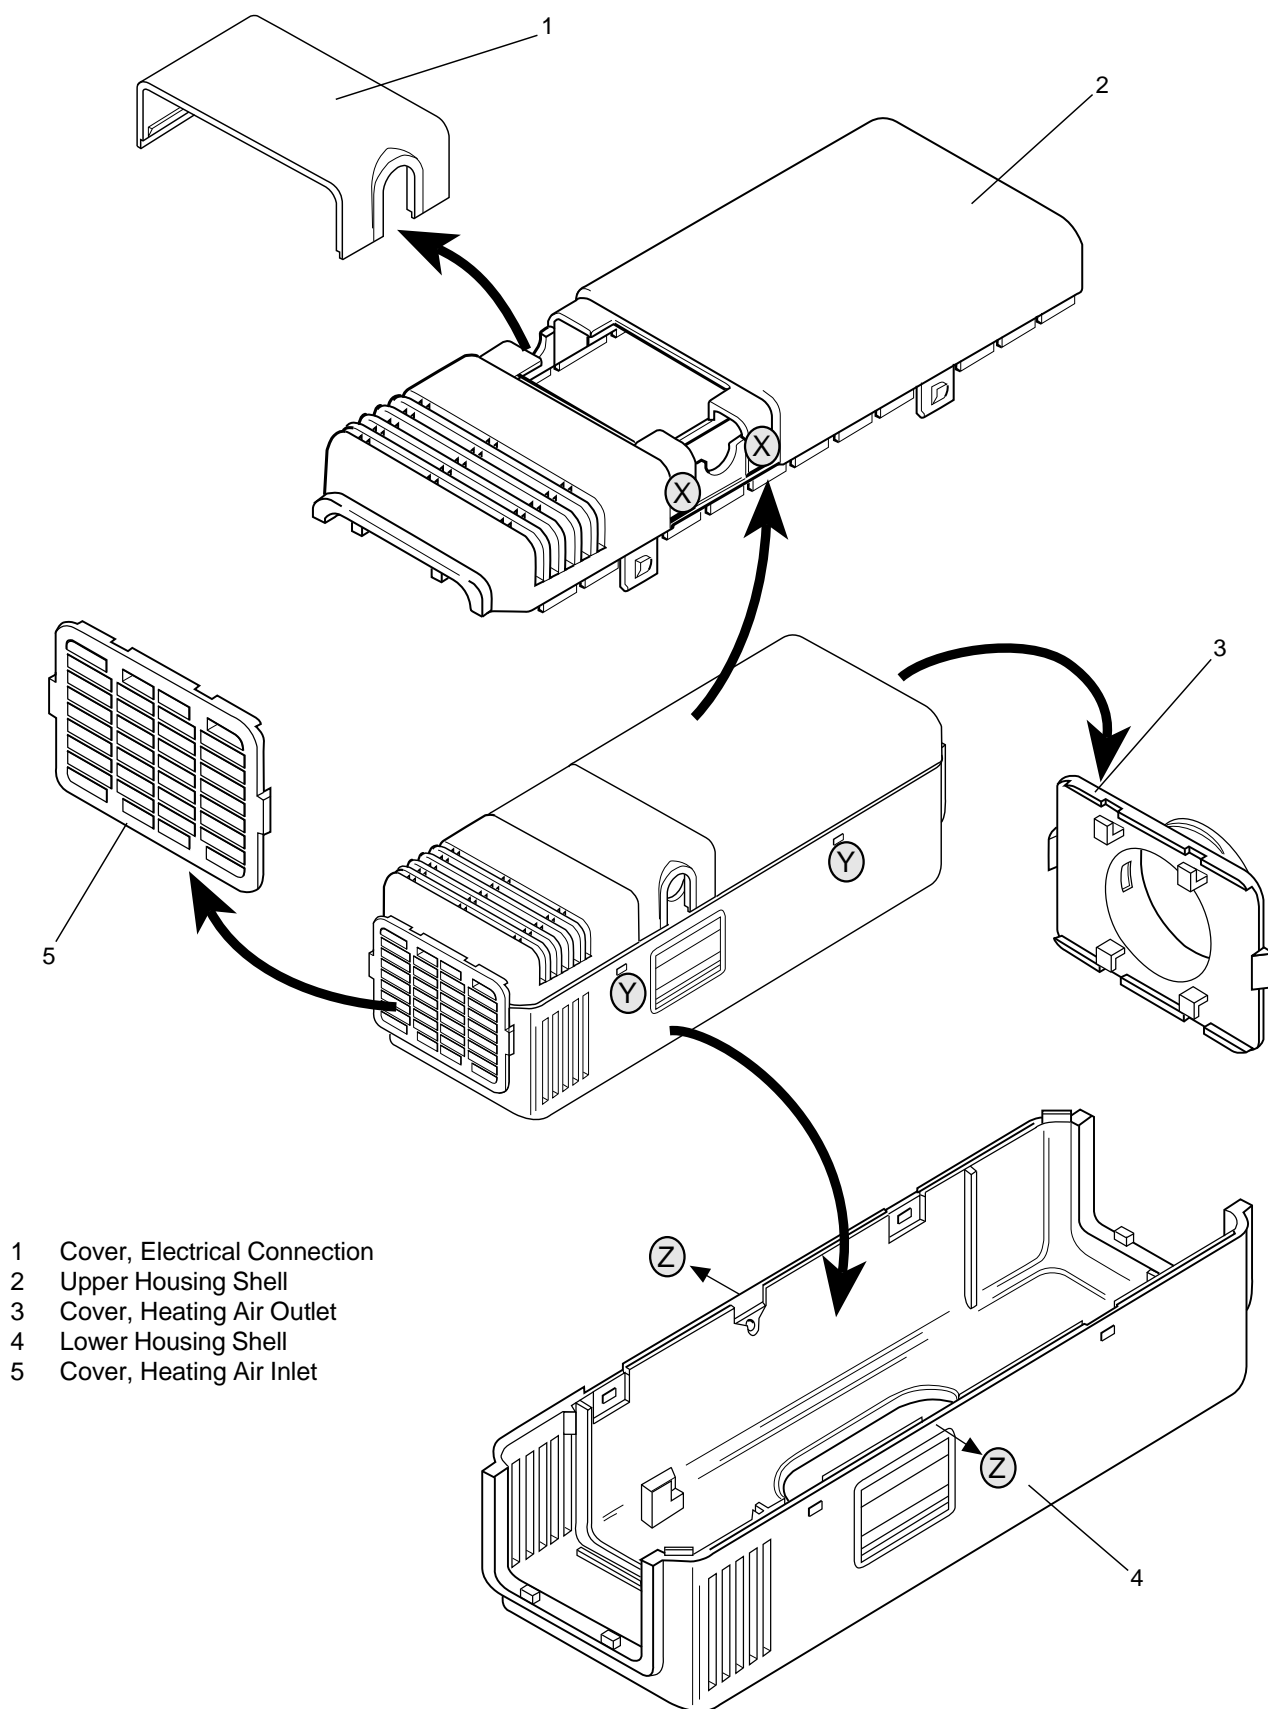

Fig. 901 Removal of Housing Components/Covers
Both covers (3 and 5, Fig. 901) may be removed by a slight side lift and a slide to left or right out of the locked position.
By simultaneously exerting pressure on the catches of the upper housing shell (2, Fig. 901) in the areas (Y), the shell disengages and can be lifted off.
By simultaneously exerting a light pull to the lower housing shell (4, Fig. 901) in the areas (Z) the catch is released and the shell may be separated from the motor housing.